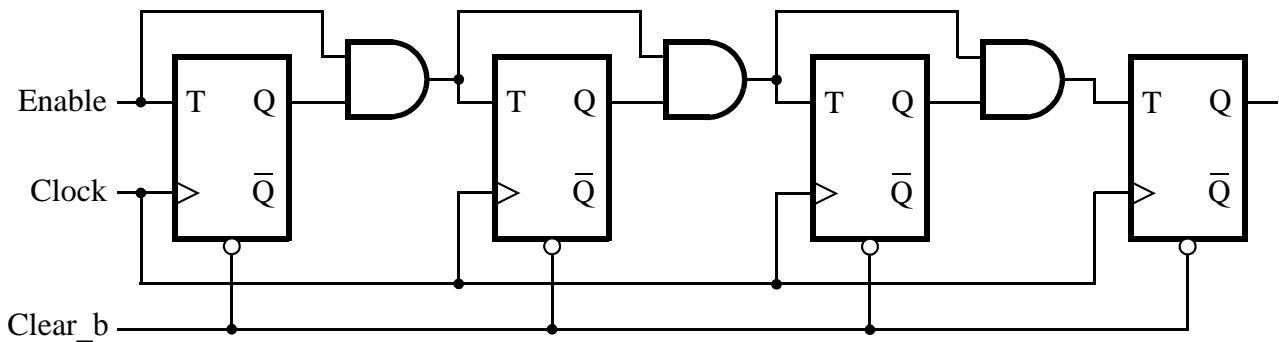

Figure 5.1: A 4-bit counter.
Consider the circuit in Figure 5.1. It is a 4-bit synchronous counter that uses four T-type flip-flops. The counter increments its value on each positive edge of the clock if the *Enable* signal is 1 (*i.e.* high). The counter is reset to 0 by setting the *Clear_b* signal low, which means that the clear is an **active-low asynchronous** clear. (In Logisim, all the input signals are asynchronous active high by default.) You should implement an 8-bit version of this counter.
1. Draw the schematic for an 8-bit counter that uses the 4-bit counter as shown in Figure 5.1.
2. Annotate all Q outputs of your schematic with the bit of the counter ($Q_7Q_6Q_5Q_4Q_3Q_2Q_1Q_0$) that they correspond to (where Q_7 is the most significant bit and Q_0 is the least significant bit). Label the inputs according to the diagram in Figure 5.1.